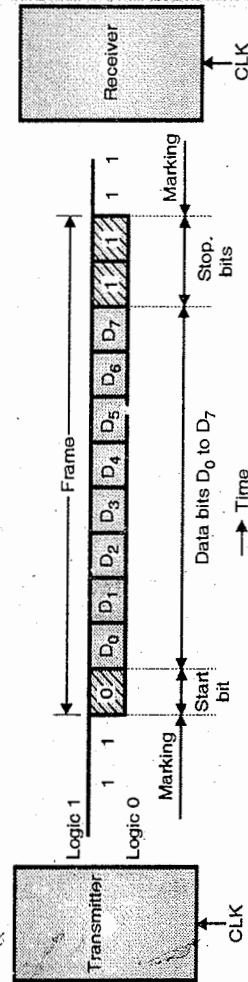

Fig. 12.2.1 : Asynchronous data format
- The asynchronous data format consists of a start bit, data bits and stop bits (also called as frame) is as shown in Fig. 12.2.1.